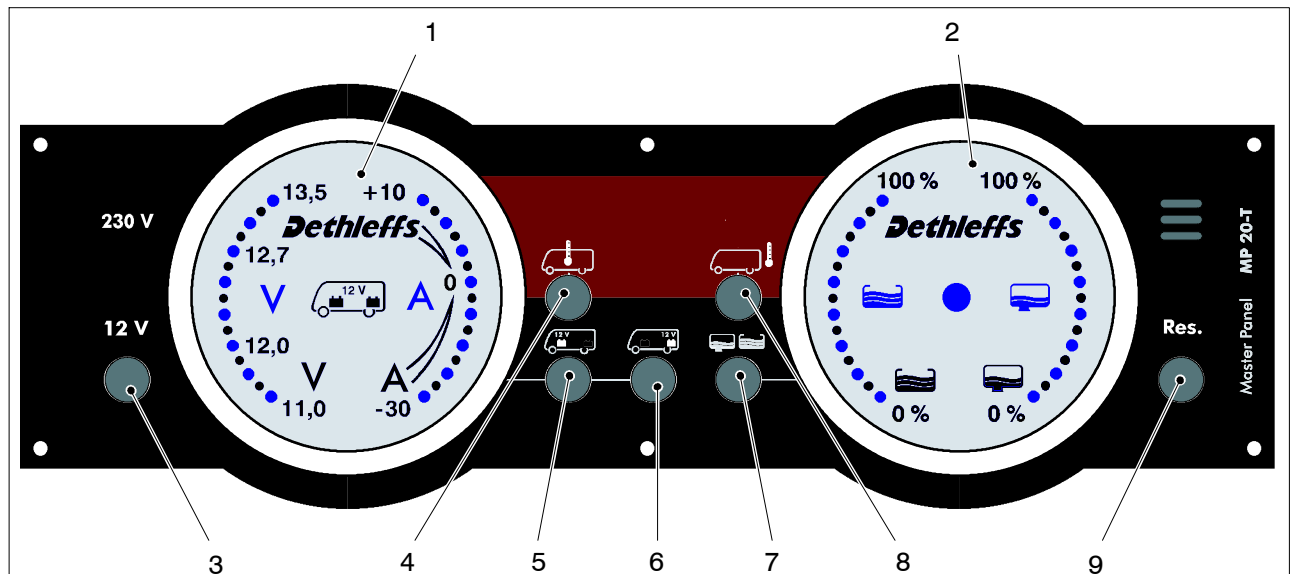

Bild 1 Layout of the MP 20-T display panel
- Press the "Living Area Battery" button once (underneath the living area battery symbol, Fig 1, Pos. 6).
► Press the "Vehicle Battery" button once again (underneath the living area battery symbol, Fig 1, Pos. 5). The display is analogous to the living area battery (see Fig. 2):